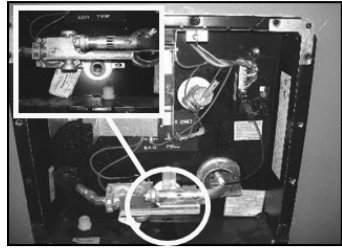

Fig 1: Water Heater Drain Plug
4. Remove the drain plug from the tank (storage) water heater located outside the RV (**Fig 1**). **Do not remove the drain plug if the water heater is hot or under pressure. Release pressure and let it cool down.**
4. If your motorhome has a standard storage type water heater you must remove the drain plug to drain the water heater (**Fig 1**).